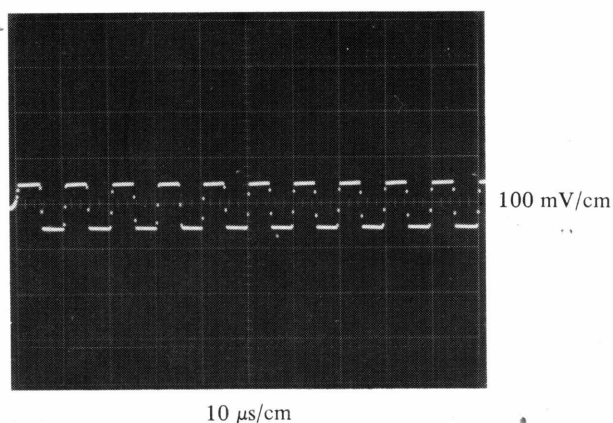

Fig. XI-1 Adjusting RV105, COMP. T.D. BIAS
- Trigger with the SENSITIVITY potentiometer and check that the positive-going edge of the first pulse is situated as is shown in Fig. XI-1.